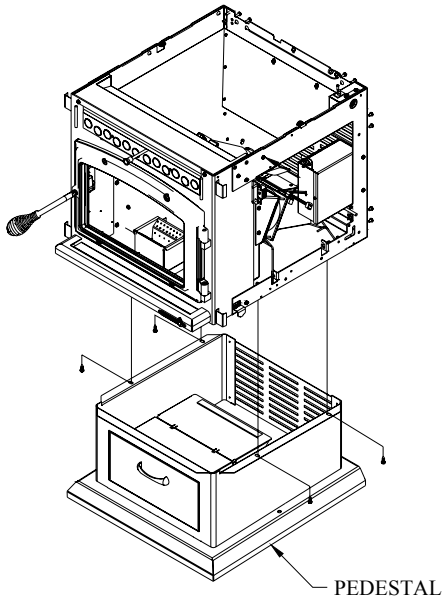

Figure 7
- 1- Secure the stove to the pedestal with the 4 screws supplied.(Figure 7)
## INSTALLATION CONFIGURATIONS HORIZONTALLY THROUGH WALL (refer to Figure 7 & 8)